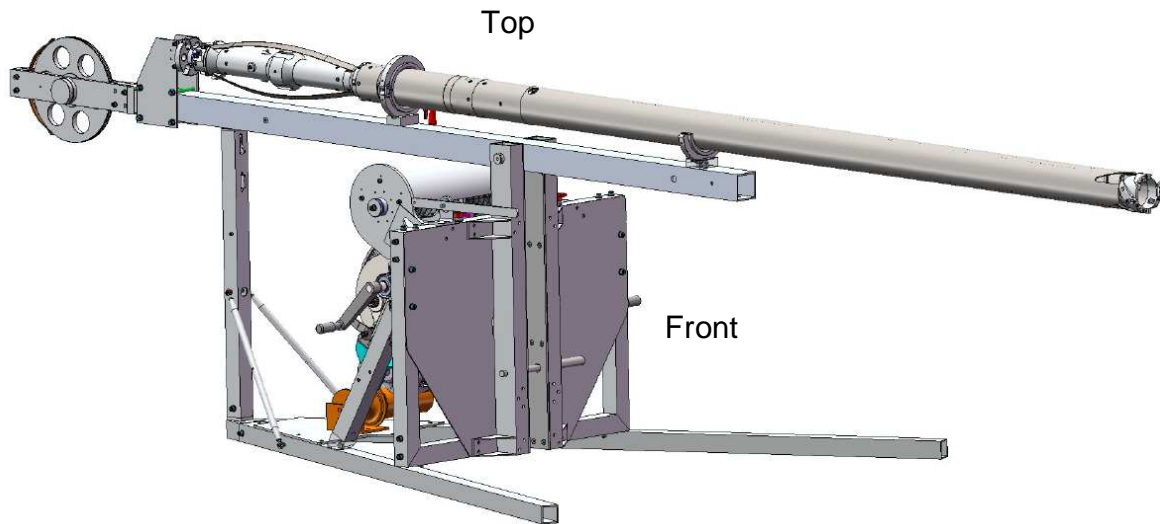

Figure 1 – Reference Frame
- Figure 1 below shows the general layout of the drill when assembled. The drill shown consists of the short boom configuration in the horizontal position.